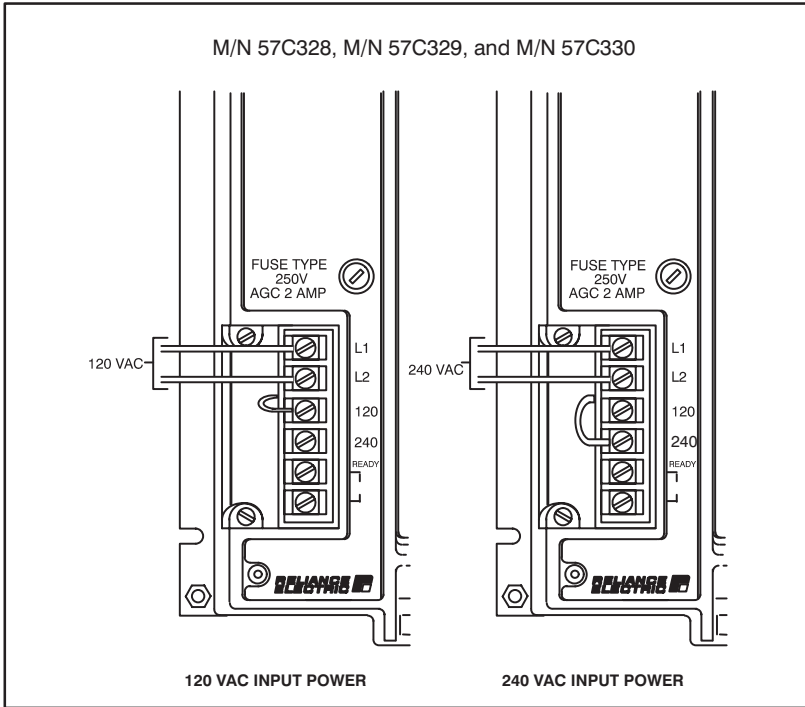

Figure 3.21 - 120 VAC or 240 VAC Input Power Connections
Step 5. Refer to figure 3.21 and use the following procedure to connect input power to the Remote I/O Head:
- Step 5. Refer to figure 3.21 and use the following procedure to connect input power to the Remote Drive Interface Head: